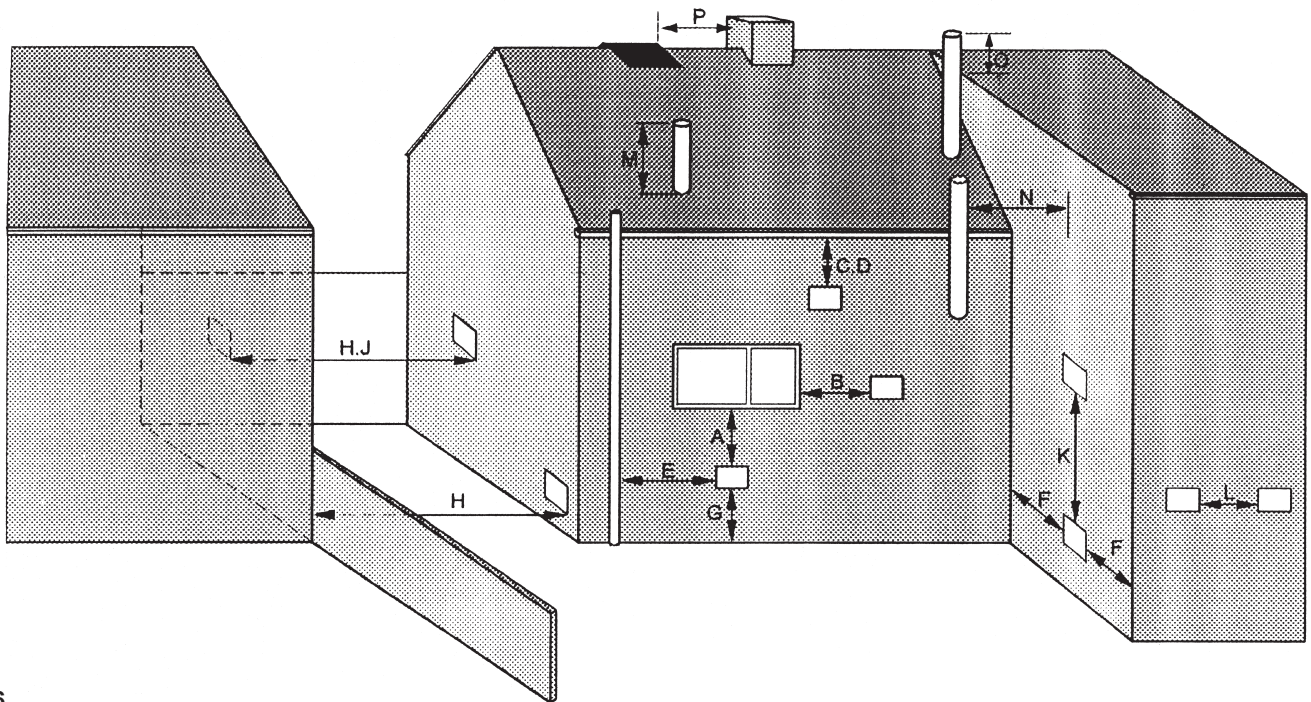

FIG 6
2.13.1 POSITIONS OF BALANCED FLUE TERMINALS SHOULD BE AS ILLUSTRATED IN FIG. 6